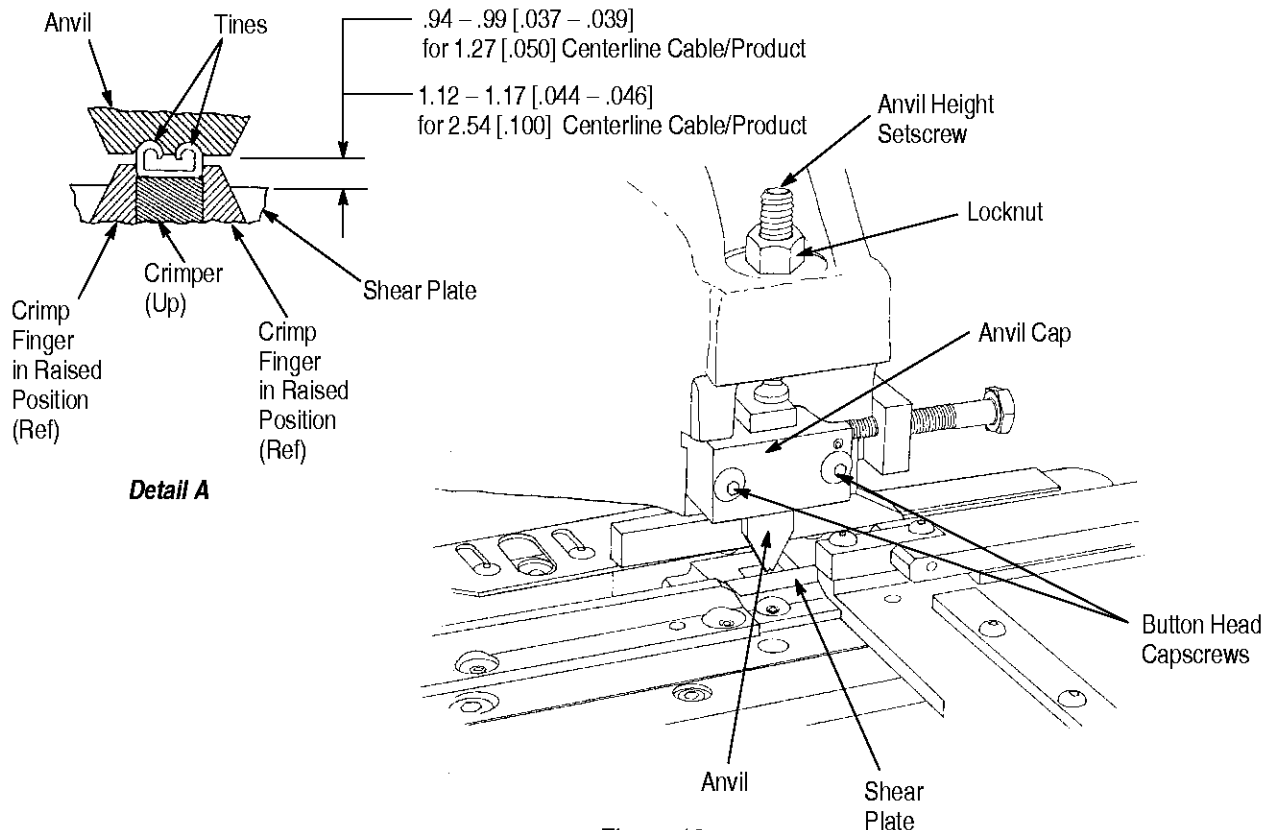

Figure 10
#### 4.7. Anvil and Shear Plate Adjustment (Figure 10)
2. Measure gap between anvil and shear plate using a thickness gage. The dimension should be 0.94 to 0.99 mm [.037 to .039 in.] for 1.27 mm [.050 in.] centerline cable/product and 1.12 to 1.17 mm [.044 to .046 in.] for 2.54 mm [.100 in.] and 5.08 mm [.200 in.] centerline cable/product. See Figure 10, Detail A, and Figures 11 and 12.
3. If the anvil requires adjustment, loosen the two button head capscrews so that there is a slight pressure on the anvil. Loosen locknut on anvil height setscrew. See Figure 10. While holding anvil, turn setscrew until the required gap dimension is obtained. Refer to Step 2. When anvil is properly adjusted, retighten button head capscrews and locknut on the setscrew.